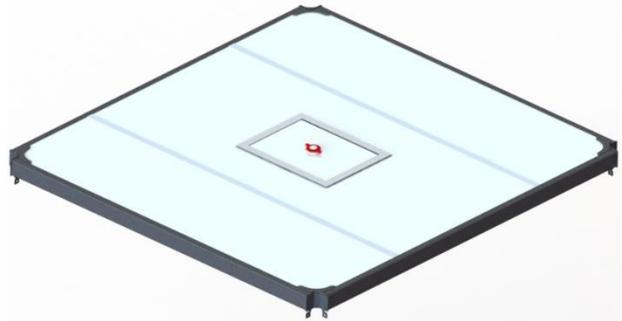

Figure 45
**Note:** The cover is rectangular. The standard model will need the motor frame to be on the short side of the COVANA cover, whereas the long side will need the motor frame on the long side of the COVANA cover. Only the 8 feet model is available in the long side version. (Figure 45)